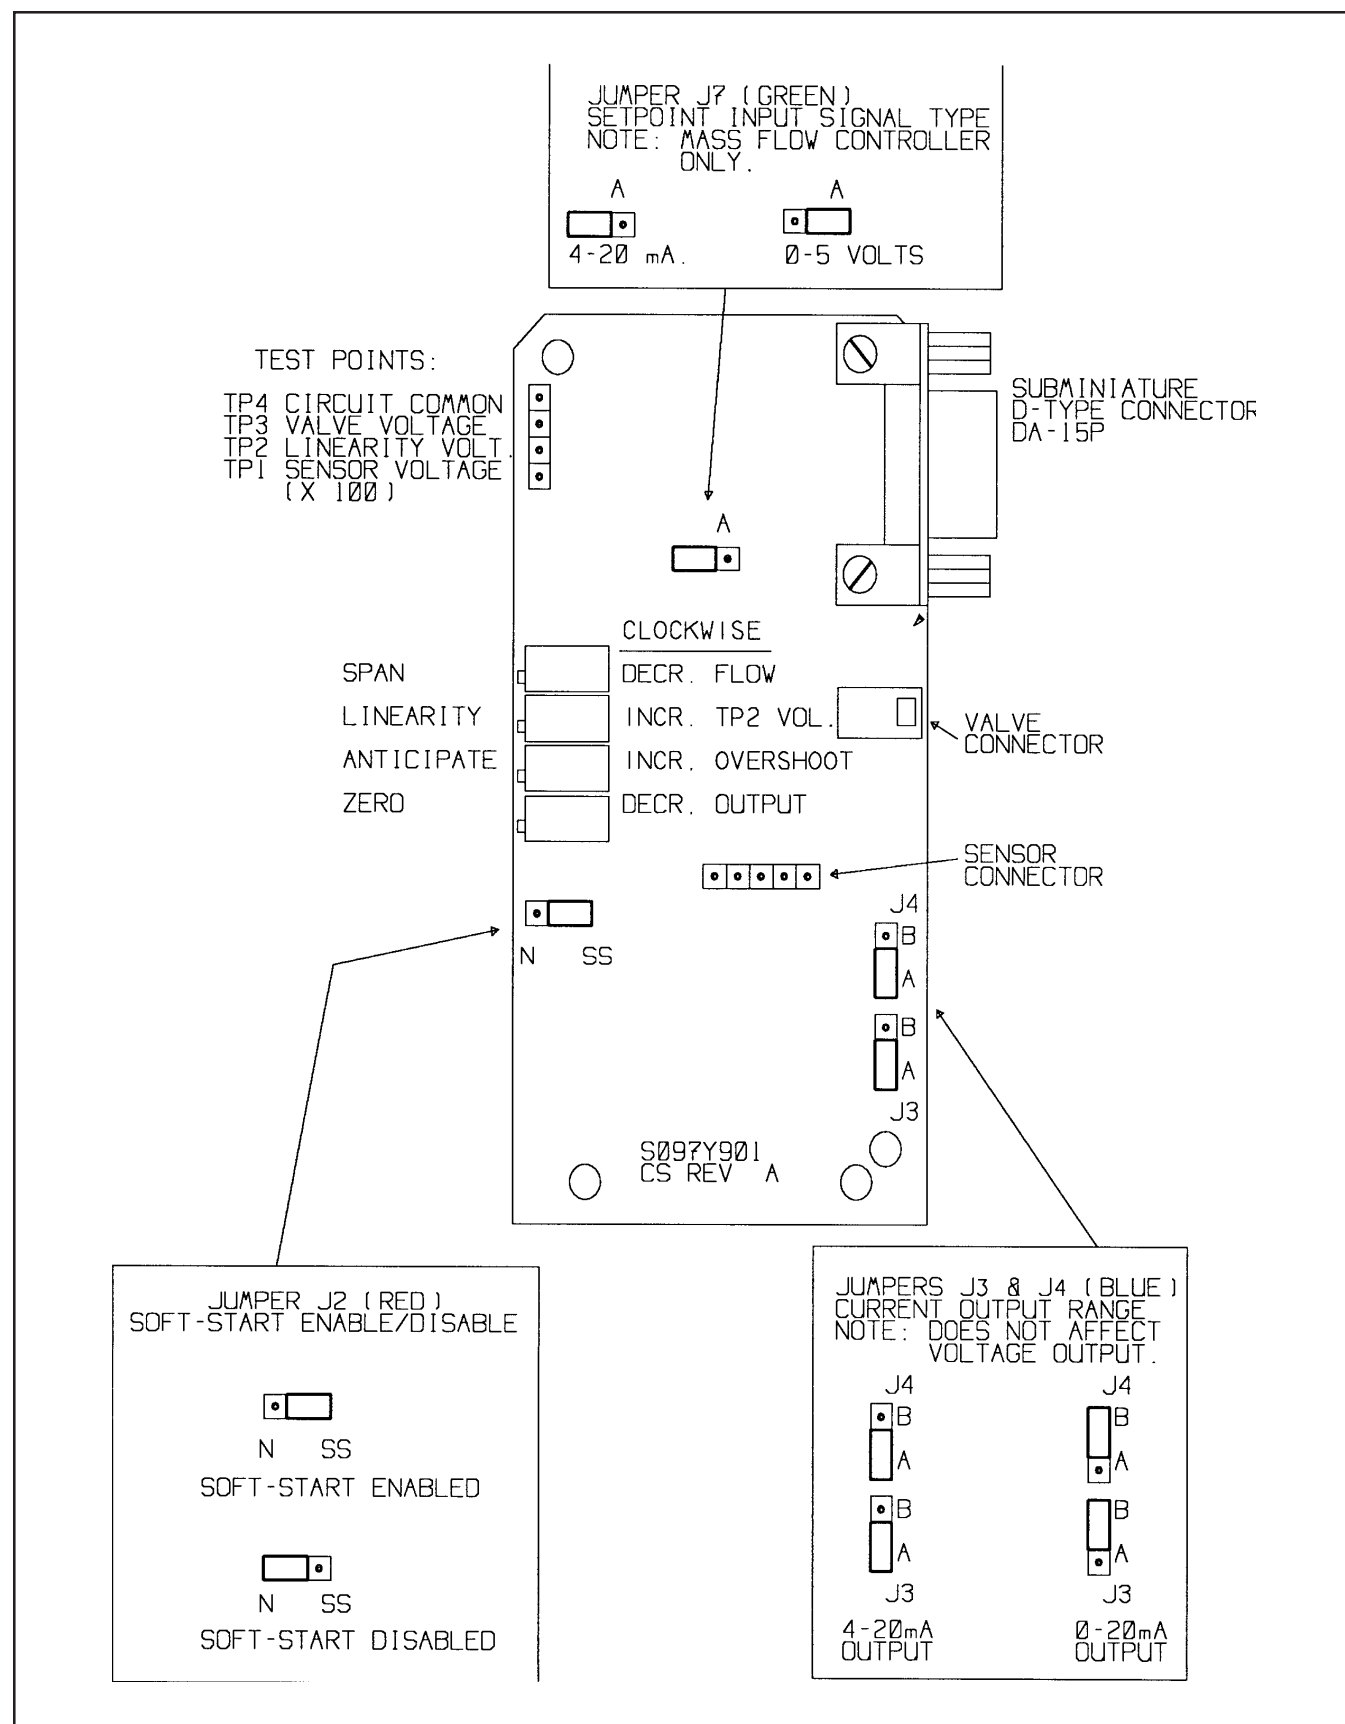

Figure 3-3 PC Board Jumper Location & Function
NOTE: To obtain access to the jumpers, the electronics cover can must be removed. Disconnect the power to the mass flow controller and any cables to the D-connector and the valve coil connector. Remove the three screws at the base of the can and remove the top jack post of the D-connector. Remove the can. The can must be replaced before returning the unit to service. Refer to Section 2-6 for the proper electrical hook-up. Refer to Figure 3-3 for PC Board jumper locations and functions.
4. Verify that all user selectable jumpers are in their desired positions. Refer to Figure 3-3.